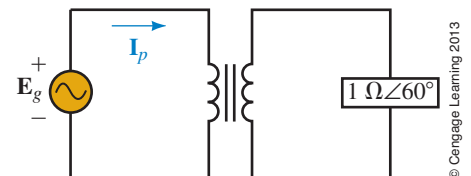

FIGURE 23-35
2. For Figure 23-35, if $a = 5$ and $I_p = 5 \text{ A} \angle -60^\circ$, what is E_g ?
3. For Figure 23-35, if $I_p = 30 \text{ mA} \angle -40^\circ$ and $E_g = 240 \text{ V} \angle 20^\circ$, what is a ?